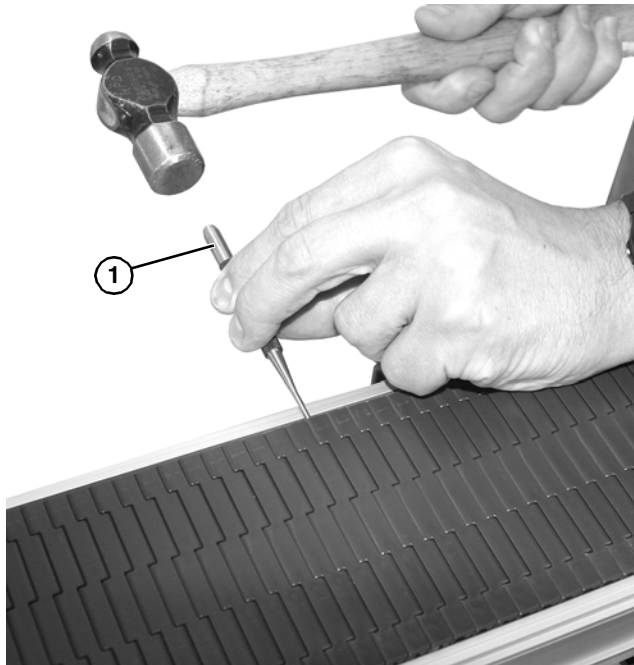

Figure 31
2. Insert punch (Figure 31, item 1) into non-retaining side of belt, pushing rod out.